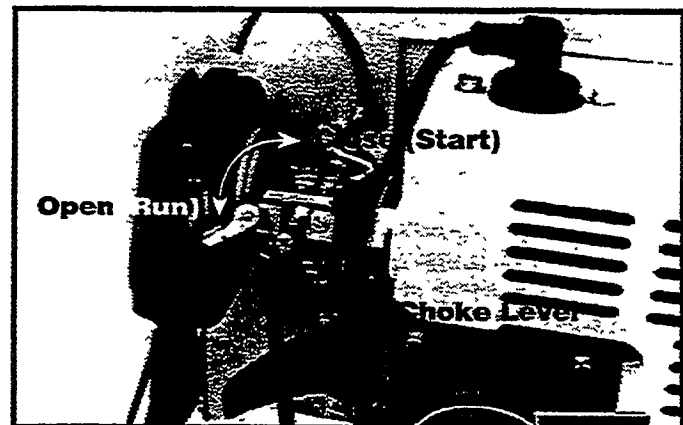

Fig. 4
2. Use the lever to fully close the choke. (Fig. 4 & 5)